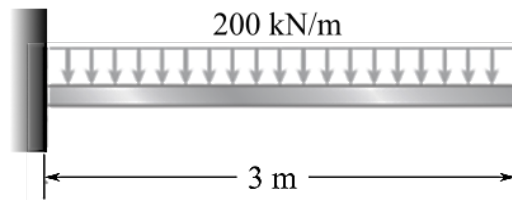

Figure 3(c) / Rajah 3(c)
- CLO2 (c) A cantilever beam 3m long is subjected to a uniformly distributed load of 200 kN/m as illustrated in Figure 3(c). Given the Young's modulus,  $E = 483 \text{ GN/m}^2$  and the second moment of area,  $I = 6.21 \times 10^{-5} \text{ m}^4$ , determine: